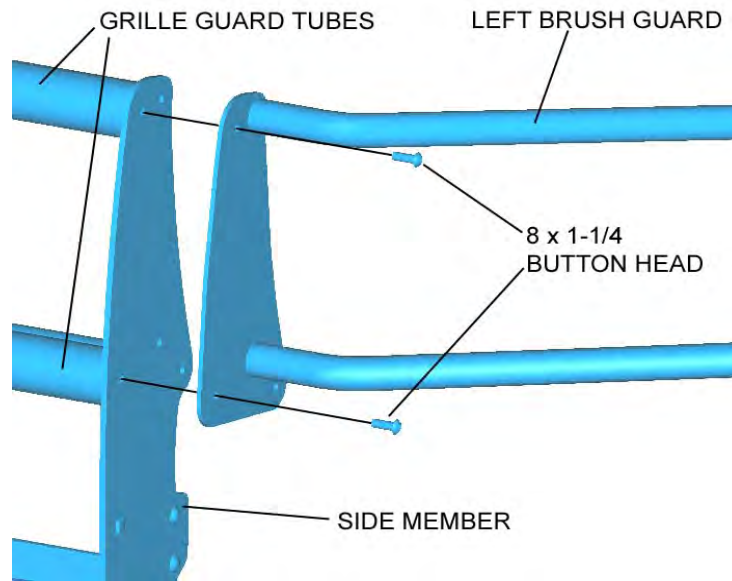

FIGURE 2 LH Brush Guard (Black Kit – one piece)
2. Hold the left Brush Guard in position and install a 3/8 x 1-1/4" button head screw through the Brush Guard End Plate and Side Member into the corresponding Grille Guard Tube. Do not tighten. See **Figure 2**. Align the Brush Guard and install the second screw.